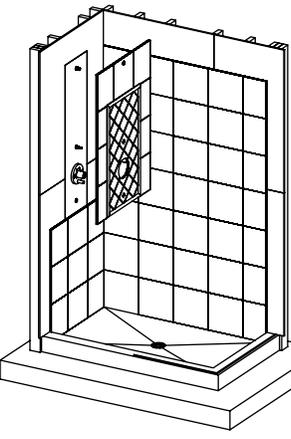

figure 22
11. Inspect, making sure all top panels are square and straight. Also make sure faucet holes are positioned properly (*fig. 22*).